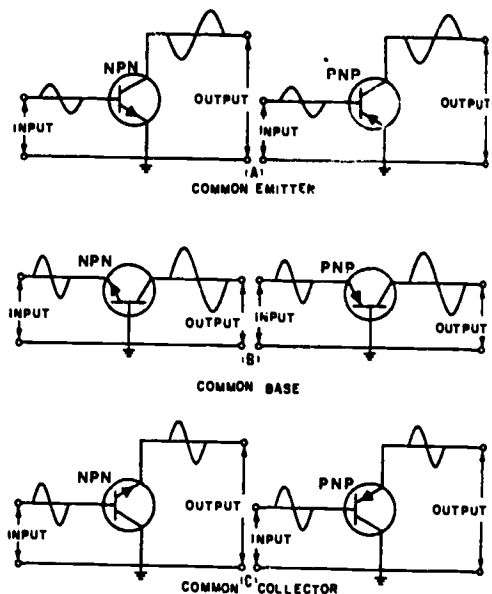

Fig 2-19. Transistor configurations.
A transistor may be connected in any one of three basic configurations (figure 2-19): common emitter (CE), common base (CB), and common collector (CC). The term "common" is used to denote the element that is common to both input and output circuits. Because the common element is often grounded, these configurations are frequently referred to as grounded emitter, grounded base, and grounded collector.
The common-emitter configuration (CE) shown in figure 2-19(A) is the arrangement most frequently used in practical amplifier circuits, since it provides good voltage, current, and power gain. The common emitter also has a somewhat low input resistance (500 ohms--1500 ohms), because the input is applied to the forward-biased junction, and a moderately high output resistance (30 kilohms--50 kilohms or more), because the output is taken off the reverse-biased junction. Since the input signal is applied to the base-emitter circuit and the output is taken from the collector-emitter circuit, the emitter is the element common to both input and output.
Since you have already covered what you now know to be a common-emitter amplifier (figure 2-15), let's take a few minutes and review its operation, using the PNP common-emitter configuration shown in figure 2-19(A).
The common-base configuration (CB) shown in figure 2-19(B) is mainly used for impedance matching, since it has a low input resistance (30 ohms—160 ohms) and a high output resistance (250 kilohms—550 kilohms). However, two factors limit its usefulness in some circuit applications: (1) its low input resistance and (2) its current gain of less than 1. Since the CB configuration will give voltage amplification, there are some additional applications, which require both a low input resistance and voltage amplification, that could use a circuit configuration of this type; for example, some microphone amplifiers.
Unlike the common-emitter circuit, the input and output signals in the common-base circuit are in phase. To illustrate this point, assume the input to the PNP version of the common-base circuit in figure 2-19(B) is positive. The signal adds to the forward bias, since it is applied to the emitter, causing the collector current to increase. This increase in I_C results in a greater voltage drop across the load resistor R_L (not shown), thus lowering the collector voltage V_C . The collector voltage, in becoming less negative, is swinging in a positive direction and is, therefore, in phase with the incoming positive signal.
The common-collector configuration (CC) shown in figure 2-19(C) is used mostly for impedance matching. It is also used as a current driver, due to its substantial current gain. It is particularly useful in switching circuitry, since it has the ability to pass signals in either direction (bilateral operation).